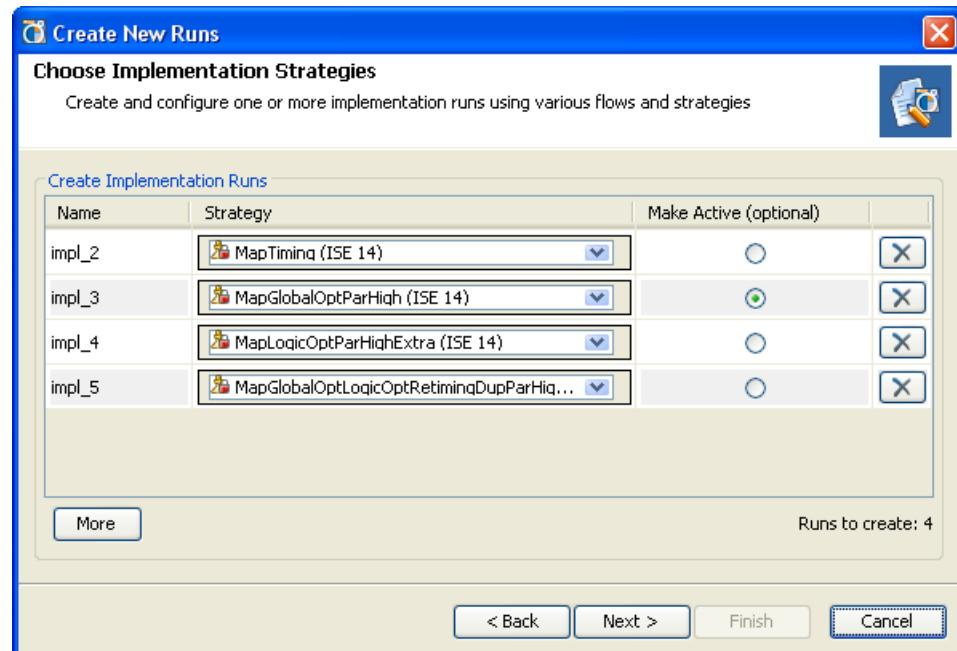

Figure 9-2: Choose Implementation Strategies
The **Choose Implementation Strategies** dialog box opens, as shown in Figure 9-2, page 311.
6. Click the **More** button to define additional runs. Specify names and strategies for the added runs as shown in Figure 9-2, page 311.